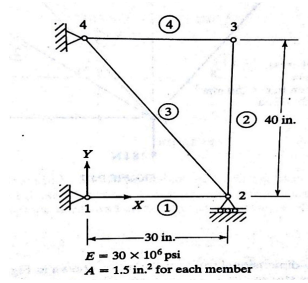

Figure 3
- (b) For the truss in Figure 3 . a horizontal load of $P = 4000 \text{ lb}$ is applied in the x direction at node 2. Write down the element stiffness matrix $[k]$. [7M]